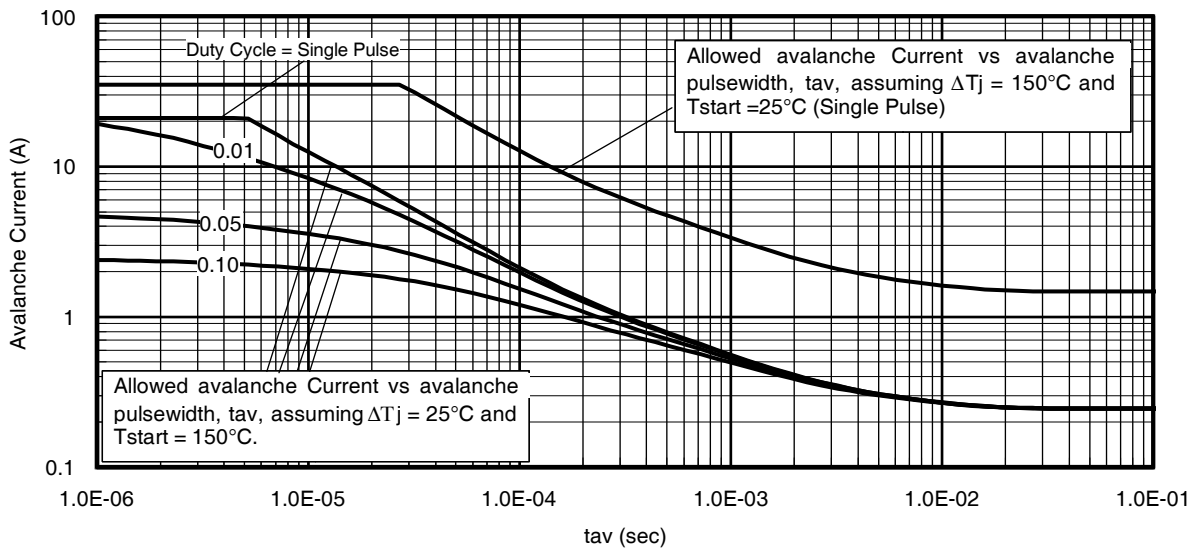

Fig 14. Typical Avalanche Current Vs. Pulsewidth
- ① Repetitive rating; pulse width limited by max. junction temperature.
- ② Starting $T_J = 25^\circ\text{C}, L = 0.51mH, R_G = 25\Omega, I_{AS} = 21A$.
- ③ Pulse width $\leq 400\mu s$; duty cycle $\leq 2\%$.
- ④ R_{θ} is measured at T_J of approximately 90°C .
- ⑤ Limited by T_{jmax} . See Figs. 14, 15, 17a, 17b for repetitive avalanche information
- ⑥ When mounted on 1" square PCB (FR-4 or G-10 Material). For recommended footprint and soldering techniques refer to application note #AN-994.
Notes on Repetitive Avalanche Curves, Figures 14, 15:
7. ΔT = Allowable rise in junction temperature, not to exceed T_{jmax} (assumed as 25°C in Figure 14, 15).